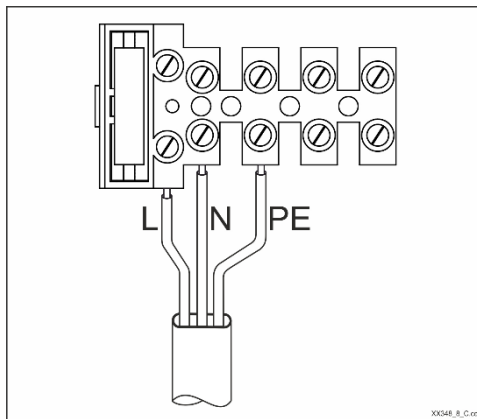

Fig. 1 Connection of the 230VAC mains power to the terminal block
5. Connect the mains power cable as shown in the figure below (Fig. 1). L, N, and PE wires should be stripped of insulation for a length of 7 mm and mounted in the terminal in such a way that the insulated part of the wire is inside the terminal.